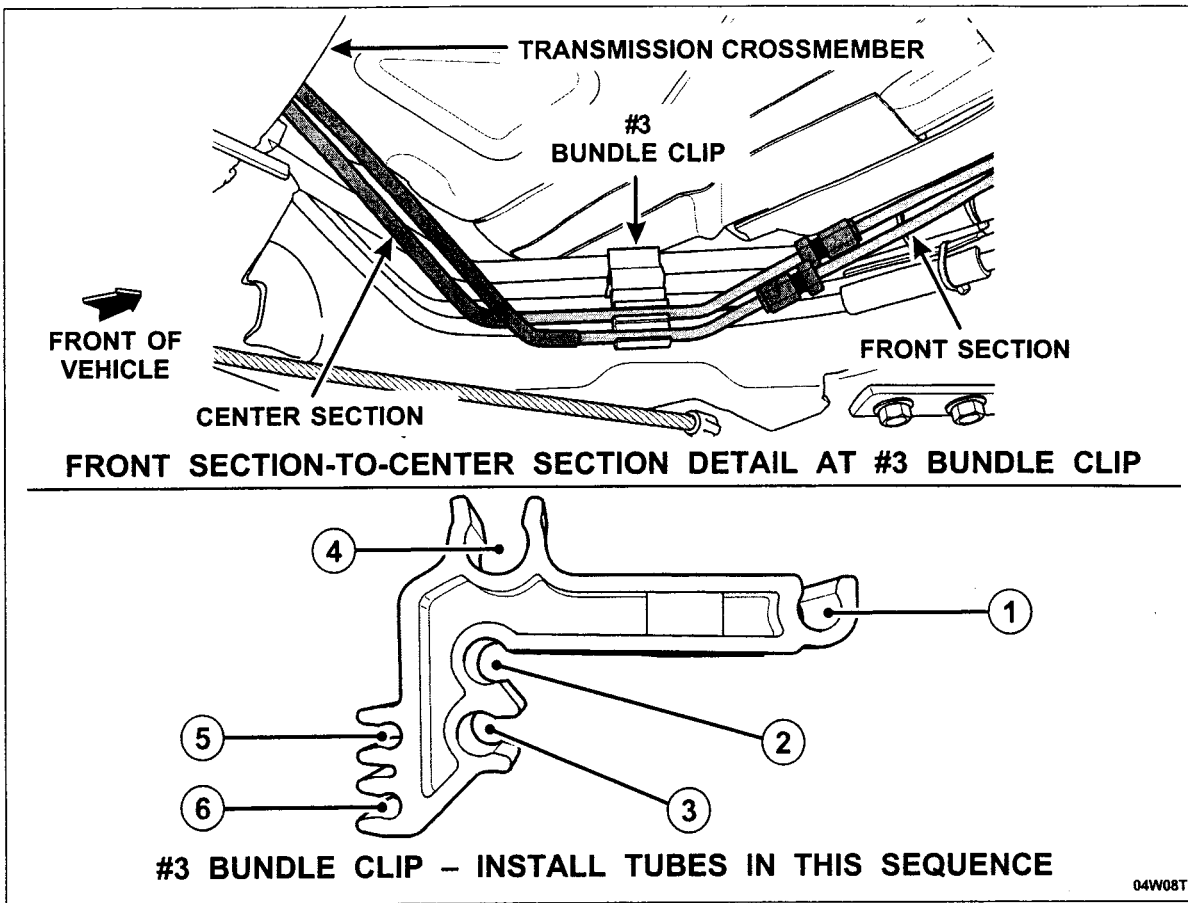

FIGURE 20
- c) Position the fuel, brake and air suspension tubes into the **new** #3 bundle clip in the sequence shown in the illustration. See Figure 20.